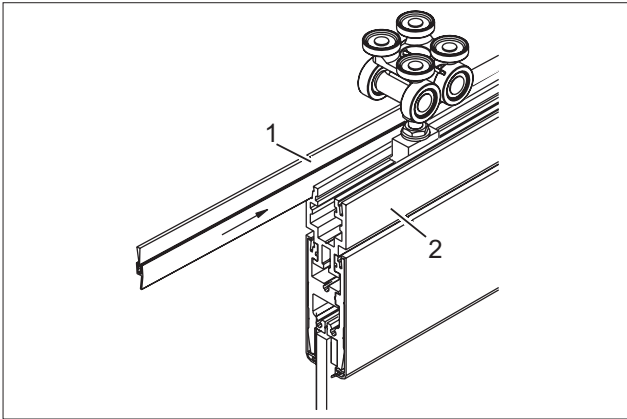

Fig. 44 Installing the brush profiles
1. Install the brush profile (Fig. 44/1) into the door rail/carrier profile (Fig. 44/2).